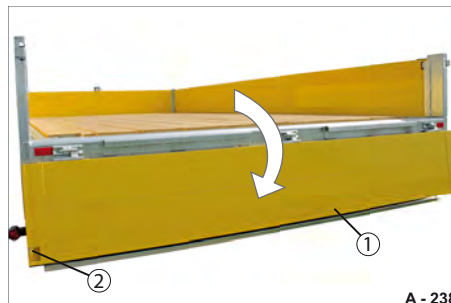

Fig. 124 Rear platform gate, folded down
- Unlock the platform gate fasteners (Fig. 124/2).
- Open the rear platform gate (Fig. 124/1) a little and close the platform gate fasteners.
- Fold down the rear platform gate (Fig. 124/1) with both hands in a controlled manner - do not drop. The platform gate fasteners cannot butt against the underrun guard/tail lights.